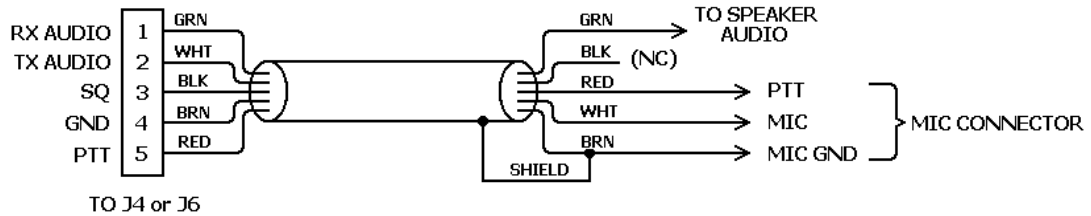

Figure 2-2 Radio-to-PK-232 Connections
- o Verify that your radio and PK-232 are connected as shown in Table 1-1 earlier in this manual and Figure 2-2 below.
1. Connect your PK-232 and FM radio as shown in Figure 2-2. BE SURE THAT THE FIVE-PIN CONNECTORS EXIT **DOWNWARD** FROM J4 AND J6.
1. Connect your PK-232 and SSB radio as shown in Figure 2-2.